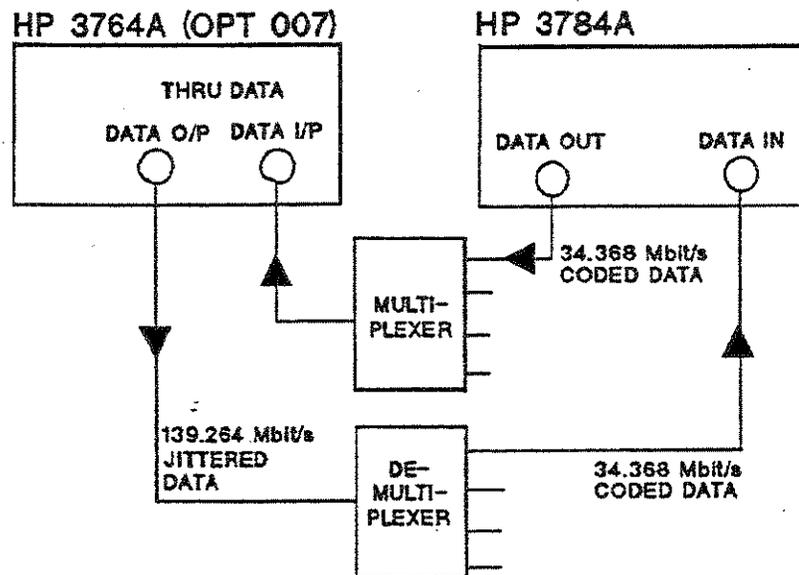

Figure 2-9. De-Multiplexer Jitter Tolerance Measurement
3. Connect up the equipment as shown in Figure 2-9.